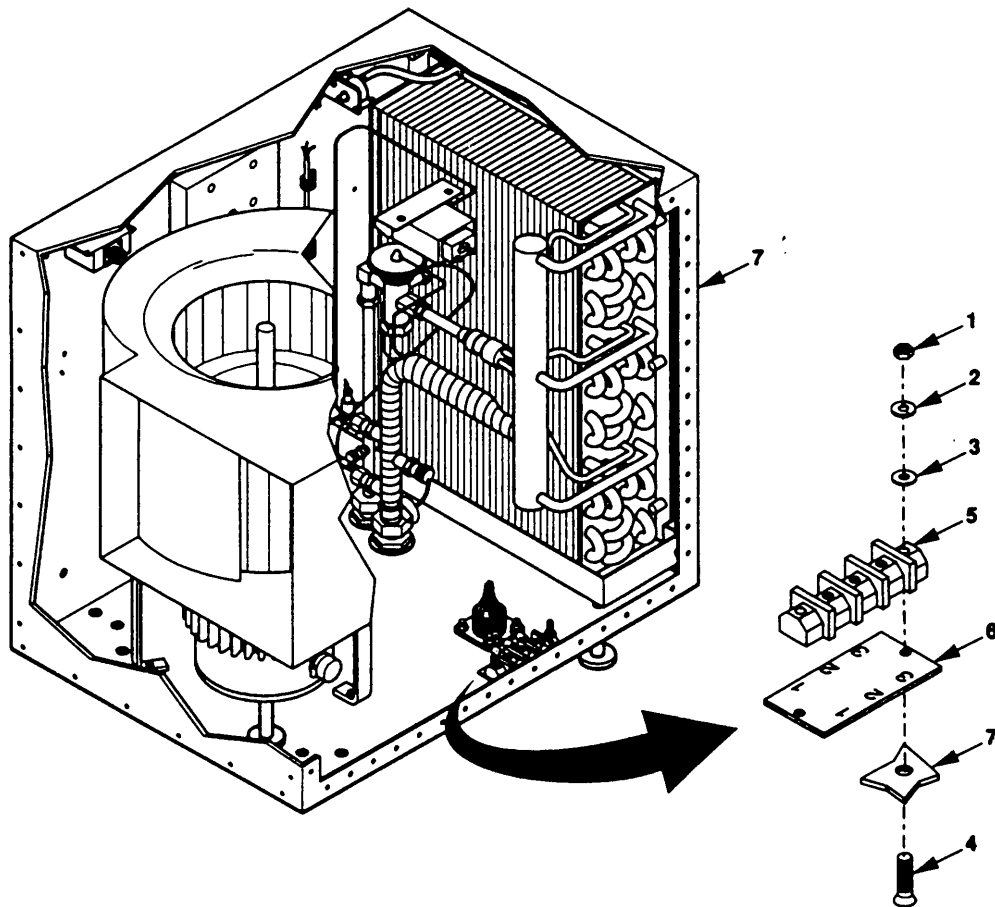

Figure 5-19. Evaporator Low Pressure Cut Out Switch Maintenance.
- (1) Inspect capillary tube (Figure 5-19, 1) and low pressure cut out switch S5
- (2) for leaks, cracks, or breaks. Ensure tape on capillary tube (1) is not damaged.